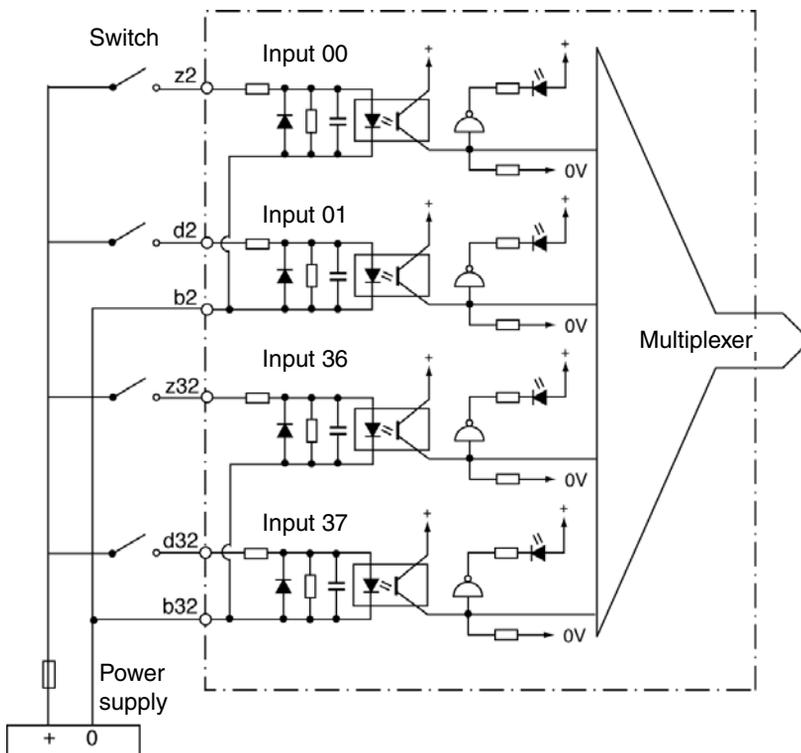

Figure 95. Block diagram IDPG24 or IDPG48.
(1) Separated 0 volt for each pair of inputs (00-01, 02-03...), see Figure 95.